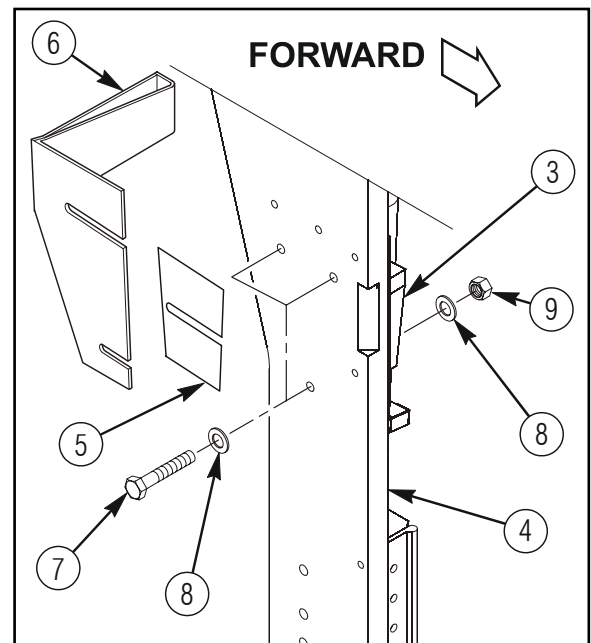

Figure 19c.
19. Secure right turret support tube bracket subassembly (3) to right B-pillar plate (4) with three 4397000-040 capscrews (7), six 4397005-013 washers (8), and three 4397064-003 locknuts (9) as shown in figure 19c (4397005-013 washer (8) may be substituted with 4397005-012 washer if washer interferes with turret support tube bracket subassembly (3)). Install existing right rifle mount bracket (6) and shims (5), if required, then tighten locknuts (9) or capscrews (7) to 21 lb-ft (28.5 N·m). Remove clamp from B-pillar plate (4) and vehicle B-pillar (2).